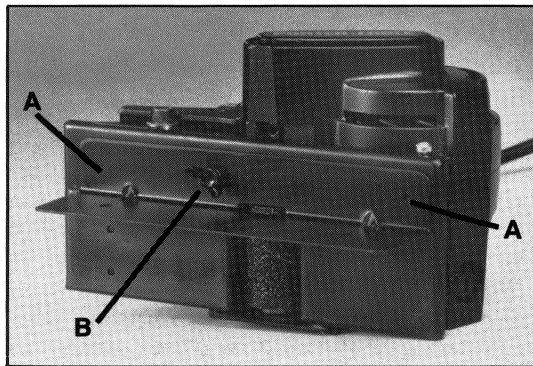

Fig. 4
1. Position fence on plane base so bosses (A) Fig. 4, on fence nestle in the small holes in the base.
2. Insert wing screw (B) thru hole in fence and thread it into the plane base, as shown in Fig. 4.